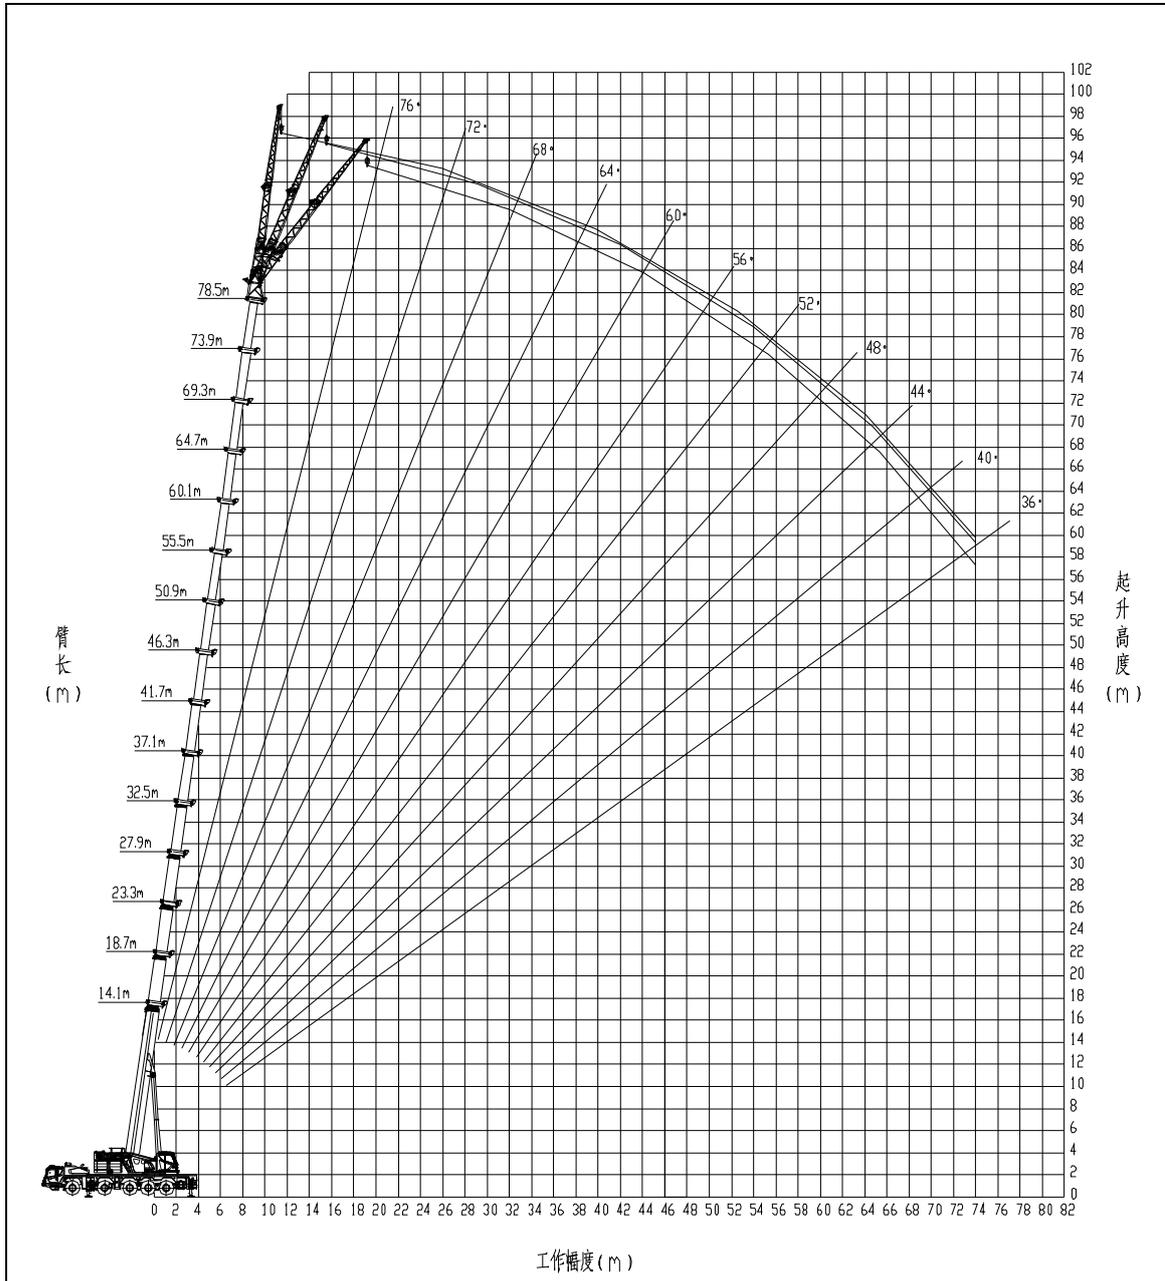

Figure 1-19 78.5 m main boom + jib variant 2 (17.5 m)
- b) For the lifting height chart for 78.5 m main boom + jib variant 2 (17.5 m), refer to Figure 1-19.